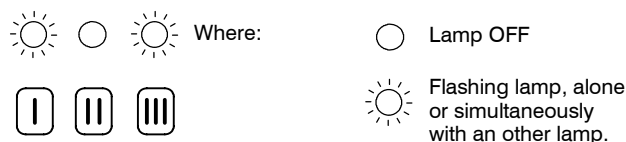

Fig. 17
- 7 Keep pressed the reset button D for about 5 seconds until the lock-out signal lamp E is switched OFF. The boiler runs in c.h. mode and the lamps F give the indication as in Fig. 17.